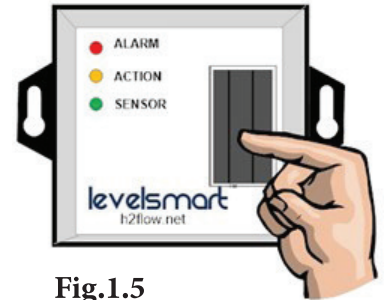

Fig.1.5
- a. Hold the magnet to the face of the Valve Controller in the position shown (Fig.1.5) for 2-4 seconds and remove it.
- b. Once the magnet has been removed, the ACTION LED will illuminate for five (5) seconds. When this occurs, the valve will open for five (5) seconds before closing. Confirm that the valve is open by listening for a click from the valve solenoid as soon as the magnet is removed and the ACTION LED illuminates. You may also hear water flowing through the valve. At the end of five (5) seconds, the ACTION LED will go off and the valve will close.